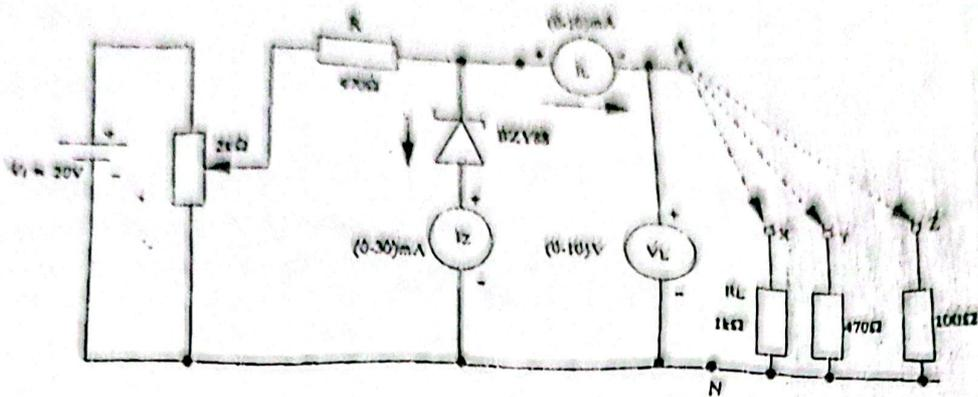

Fig. 10.4: Voltage regulator circuit using zener diode.
- (v) Meanwhile, switch off the dc power supply. Do not disconnect the whole circuit of Fig. 10.4. Replace only the (0-50) mA meter with the (0-10) mA meter.